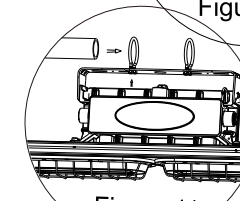
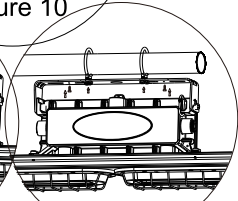

Figure 11
Figure 12
3. Insert the U-shaped bolt of the fixture into the round pipe (Figure 11); tighten the bolt M6 nut, and the other M4 hex screw from the bottom of the bracket to fix the round rod (Figure 12).
4. Wire guard is optional, can be installed according to the actual application (Figure 12).